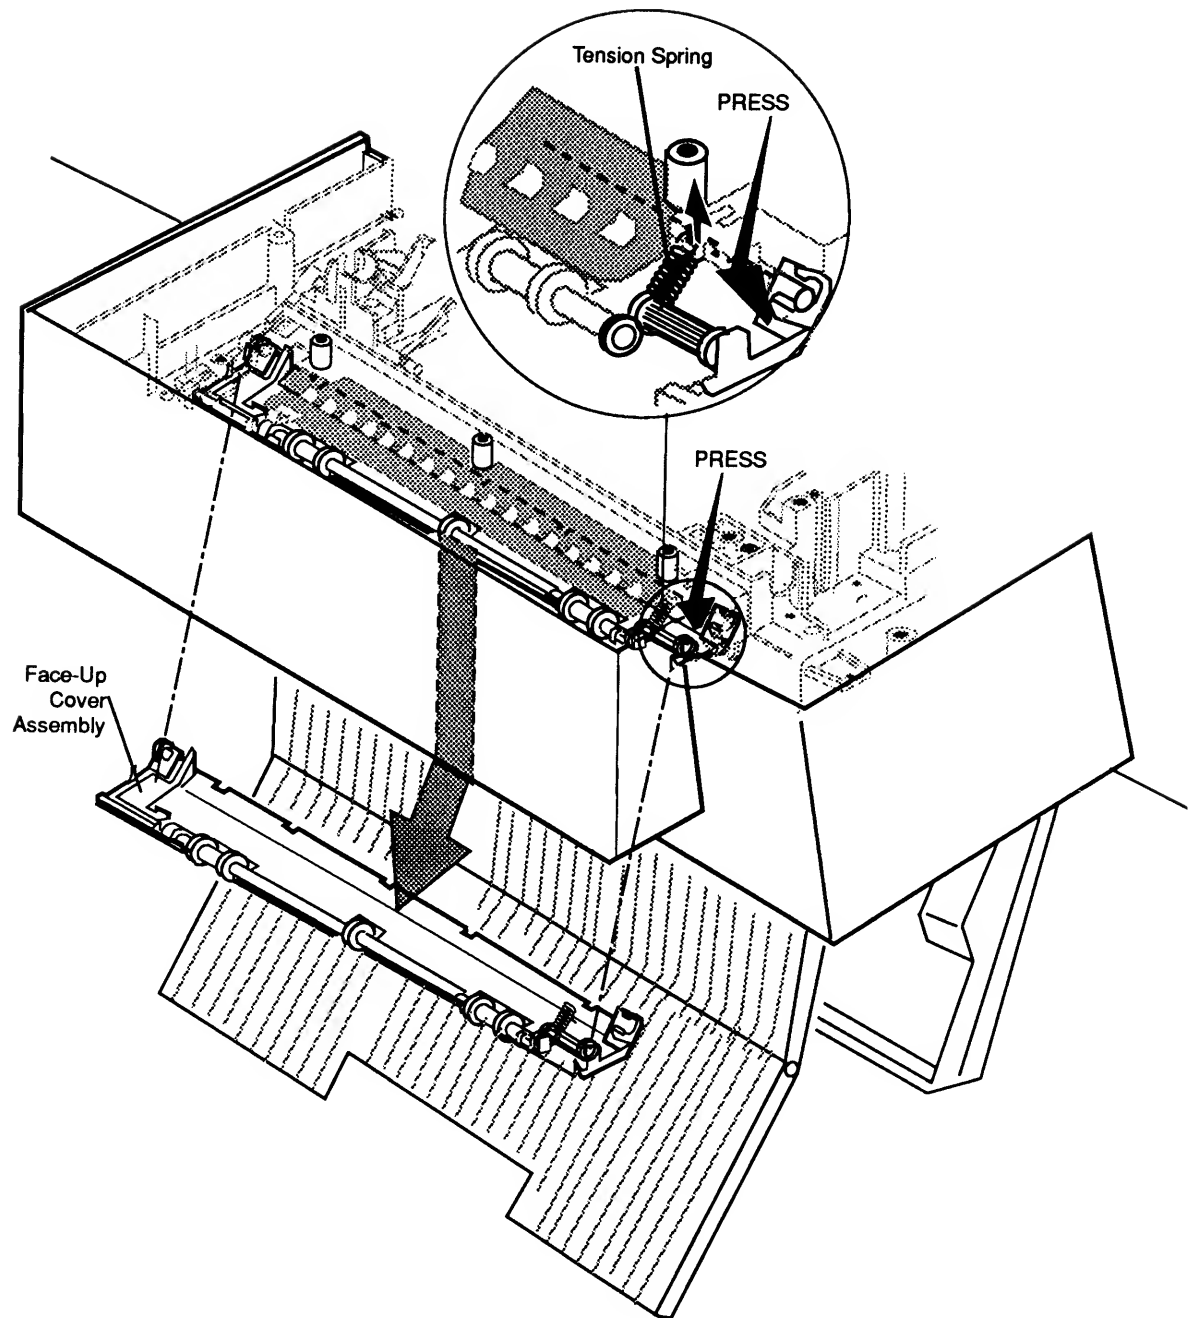

Figure 2-58 Face-Up Cover Assembly
2. Using needlenose pliers, unhook the tension spring between the face-up cover assembly and the front access cover **(Figure 2-58)**.
3. Hold the face-up cover assembly with one hand and press down near the open catch on the right side of the printer until the cover assembly releases **(Figure 2-58)**.
4. Remove the face-up cover assembly from the printer **(Figure 2-58)**.